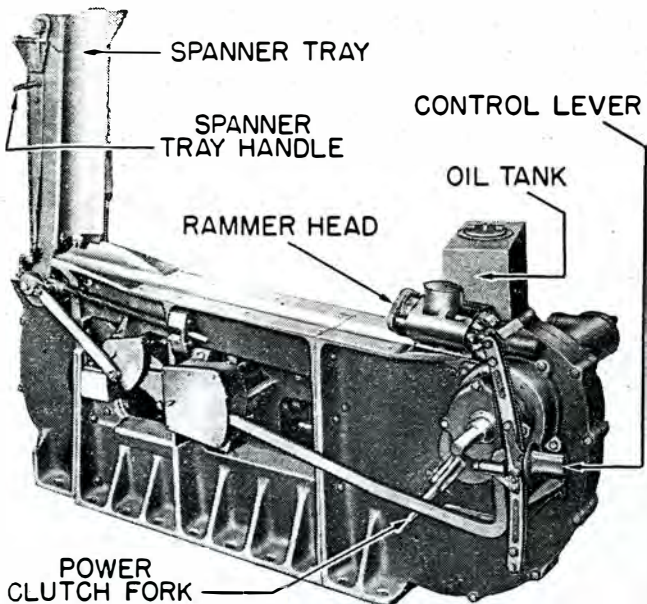

Figure 12. Rammer, left side.
b. **To ram the projectile.** No. 4 moves the rammer control lever (figs. 12 and 13) up to the RAM position. For safety reasons he should grip the handle loosely or, even better, rest his hand on top of the rammer control lever. As the projectile nears the seated position, the unstroking device moves the hydraulic speed gear control and the control lever toward neutral. No. 4 follows the rammer control lever down with his hand, shoving the handle the last short distance to the neutral position. The unstroking device will not move the control lever completely to neutral because the device is adjusted to bring the rammer head to a stop after a seating stroke of $99\frac{1}{2}$ inches which is a few inches longer than the stroke actually required to seat the projectile. Therefore, the control lever does not reach the neutral position and must be moved there by hand.
g. **To ram the projectile by hand using the rammer.** No. 4 first pins the power clutch fork (fig. 12) in the inner hole to disengage the rammer motor from the gearing. Next, the hand cranks are assembled to the crankshaft and the control lever placed in the neutral position. No. 4 then takes position at the left-hand crank with two other men and supervises the work of hand ramming. Three more men are needed on the other hand crank to obtain proper seating of the projectile. The speed of the cranks should be steadily increased so that maximum speed is obtained at the instant of the seating of the projectile. Care should be taken to see that no one is injured when the chain and cranks stop with a jerk at the instant the projectile is seated.